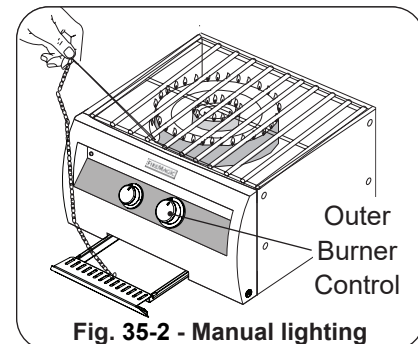

Fig. 35-2 - Manual lighting
WARNING: **DO NOT** put hand directly above the burner when lighting but off to the side as shown (Fig. 35-2).
- 2a. Insert either a burning long-barrel butane lighter, a burning long-stem match, or a burning match held by a wire extension holder through the cooking grids to the desired burner to be lit (Fig. 35-2). **With the flame still next to the burner, depress the corresponding control knob (outer burner- right knob, inner burner- left knob), and while pressing turn it counterclockwise to the HI LIGHT position.** Remove the lighter or match when the burner lights, and release the control knob.
3. If the burner does not light within five (5) seconds of turning the control knob, **IMMEDIATELY** turn the burner control knob to the **OFF** position. **WAIT FIVE MINUTES** before repeating steps 2 and 3 of the **MANUAL LIGHTING INSTRUCTIONS**.